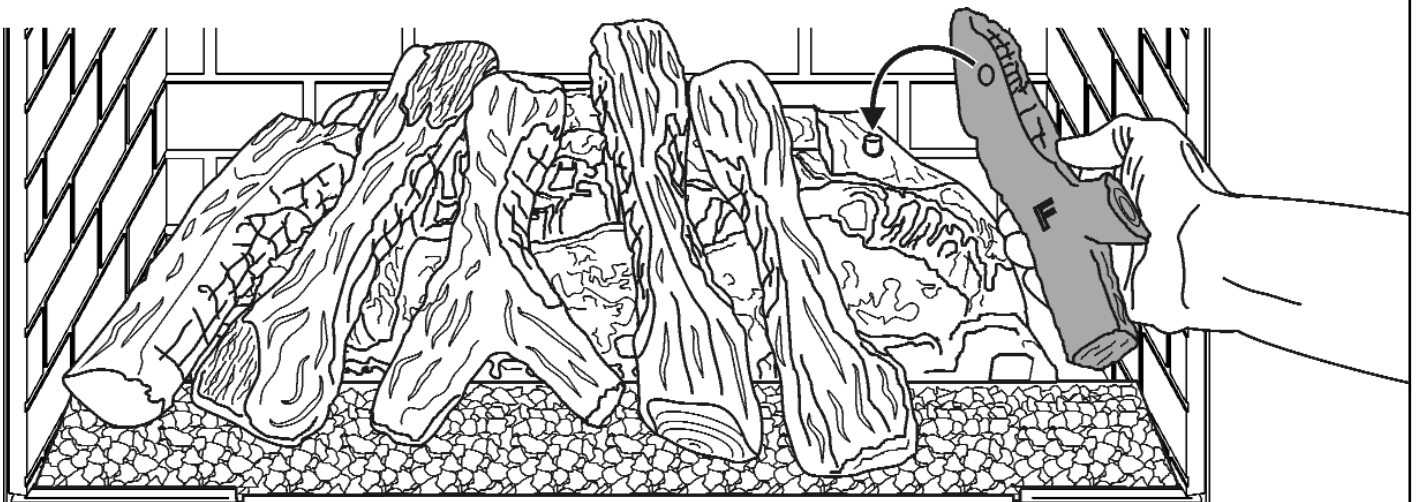

Figure 9. Fitting log 'F'
9. Remove log 'F' from its protective packaging and position it as shown in figure 9. Locate the hole in the base of log 'F' onto the peg on top of the rear base. The bottom right side of the log should lie against the ceramic side wall.